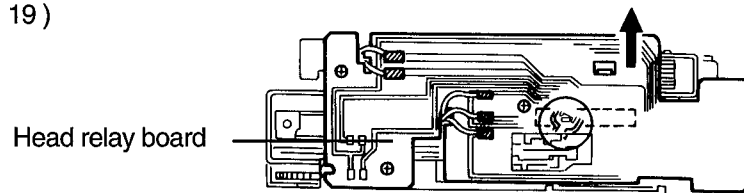

Fig. 19
11. Solder the loading motor and head lead wires to the head relay board, respectively. ( See Fig. 19 )